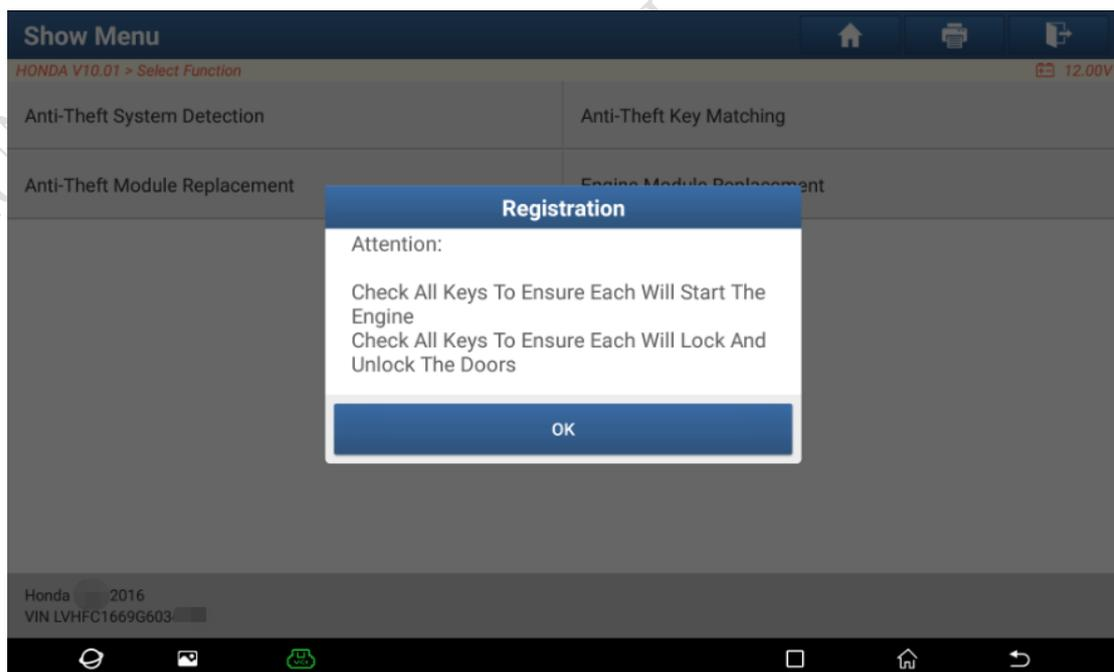

Figure 12
12. Check all keys, try to start Engine, lock and unlock the doors, as shown in Figure 12.